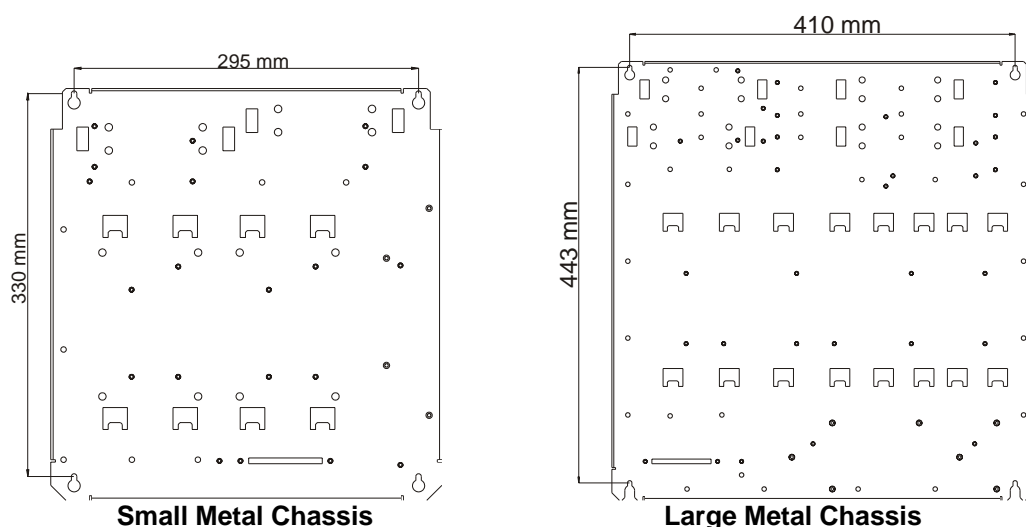
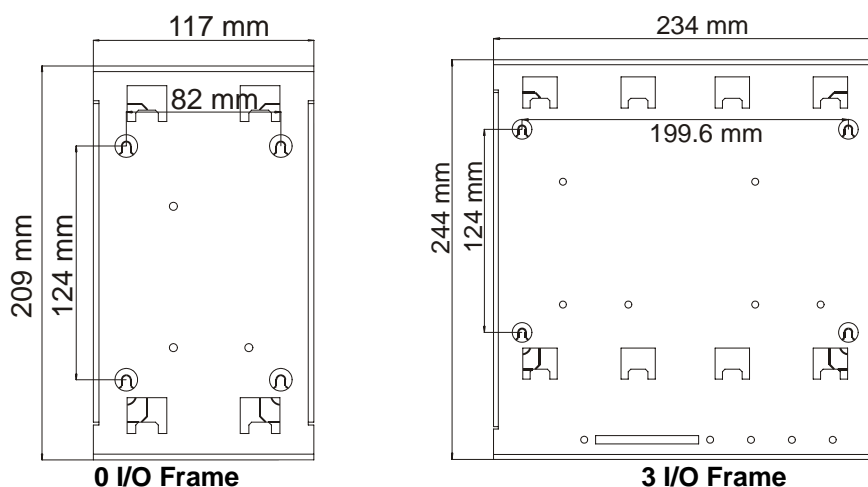
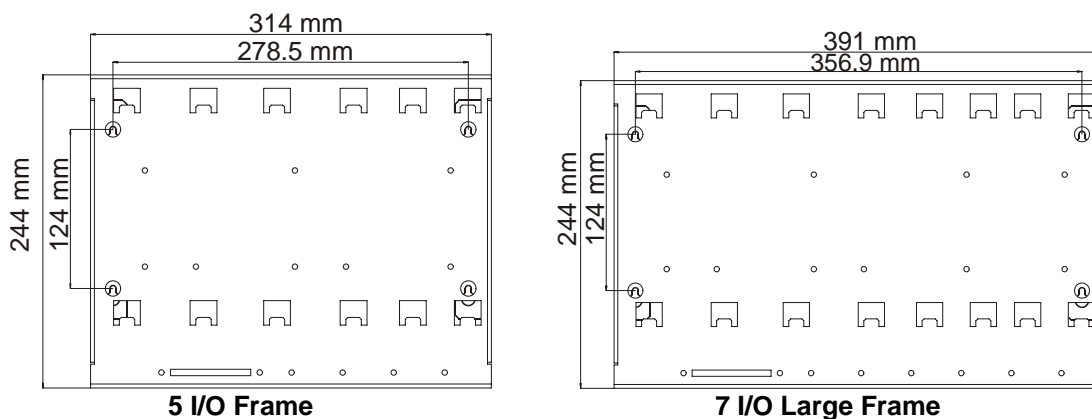

Figure 2-1 Small/Large Metal Chassis Installation Dimensions and Screw Holes for Installation
Figure 2-2 No I/O and 3 I/O Frame Installation Dimensions and Screw Holes for Installation
Figure 2-3 5 I/O and 7 I/O Frame Installation Dimensions and Screw Holes for Installation
Four holes are provided, one in each corner of the RTU frame, for wall mounting the RTU. Figure 2-1, Figure 2-2, and Figure 2-3 show the dimensions of the various frames/metal chassis and the distances between the holes. For convenient installation of the ACE3600 RTU on a wall, allow an additional 6 cm (2.4") (in W, H) and 7 cm (2.75") (in D) around the plate.
- 1) Drill four holes in the wall at the horizontal and vertical distances shown in Figure 2-1 and Figure 2-2.